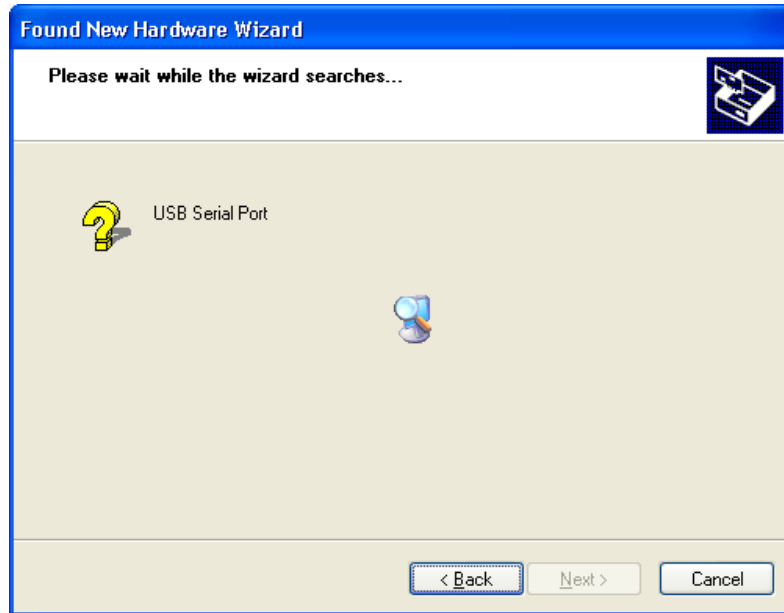

Figure 4. Driver Coping Window
9. A window is now displayed showing the driver software being located and then copied (Figure 4).